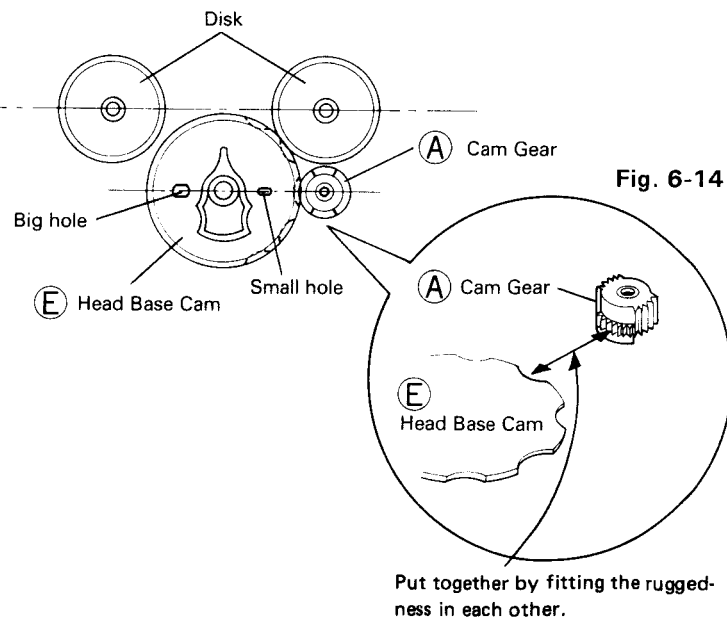

Fig. 6-14
c) When putting back the head base cam (**E**), pay careful attention to positioning it so that big and small concaves are paralleled with the disk. (Fig. 6-14)